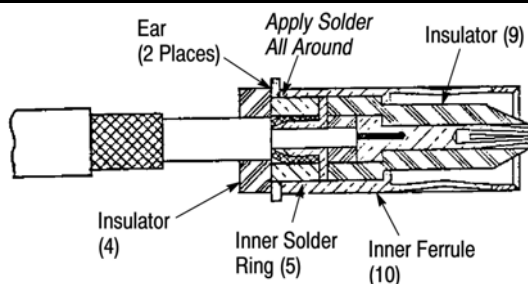

Figure 6
Assemble insulator (9) and inner ferrule (10) as shown in Figure 6.